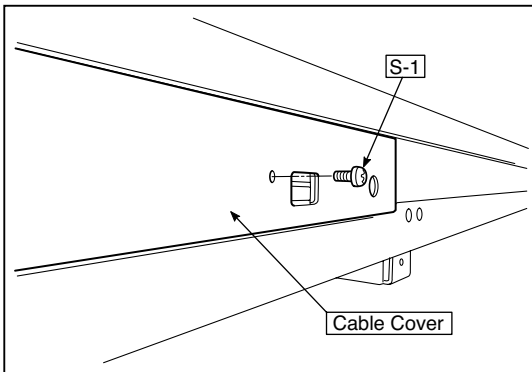

Fig.1
#### 1) Remove the Main Board Assy. (See Figs. 1 and 2.)
1. Remove the "S-1" screws shown in the figure 1 and then remove the Cable Cover.